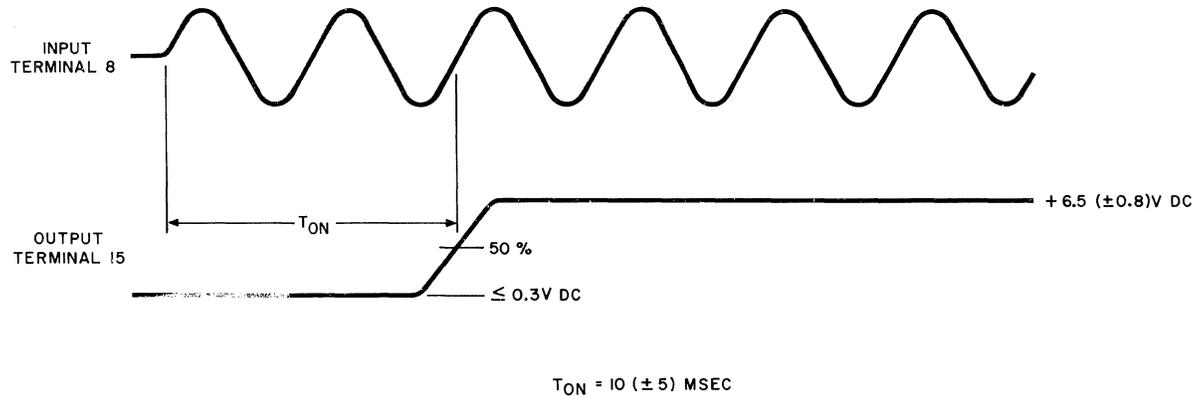

Fig. 25 — Automatic Gain Control 2 Test
(2) Set the frequency of the square-wave generator to 1 cps. Set the symmetry control to its center position and the 600-ohm output amplitude control to 0.
(3) Set the frequency of the sine-wave generator to 1800 cps ( $\pm 5$  percent). Adjust the generator amplitude control until the input level at terminal 8 of the AGC1 card is 2 db higher than the level recorded in 10.27 (3). Set the 600-ohm output amplitude control of the square-wave generator to its center position.
(4) Set the scope EXT SYNC TRIGGER selector to the (+) positive position. The input waveform on terminal 8 of the AGC1 card and the output waveform on terminal 15 of the AGC1 card shall be as specified in Fig. 25.